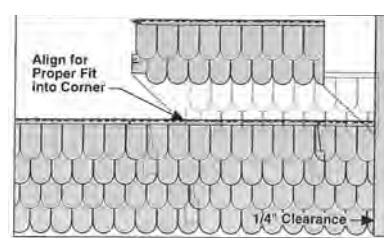

Fig.15
- c. Round Cut – Align Left Side Flange with nearest Alignment Line of course below that allows for proper fit into corner post or J-channel (see Figure 15).